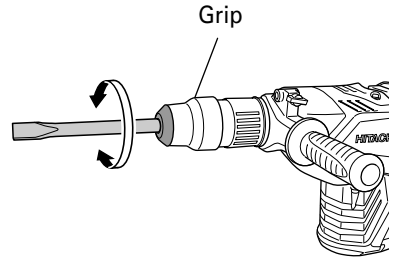

Fig. 10
- (b) Turn the grip as illustrated in Fig. 10 and fix the tool to the desired working direction.